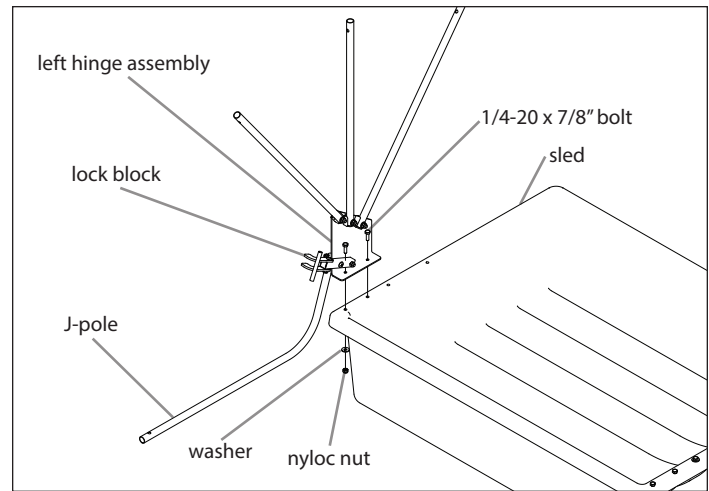

FIGURE 1: Left Side Shown
1. Attach the left hinge assembly (11180) to the sled using (2) 1/4-20 x 7/8" bolts, (2) 1/4-20 nyloc nuts and (2) 1/4" washers. To make assembly easier, the two bolts that hold on the lock block (11178) are loose; you will need to remove the lower bolt and lift the lock block up. Insert the front hinge bolt and return the lock block to the original position. Put the lower bolt back through lock block and hinge plate and then tighten the upper and lower lock block bolts. **SEE FIGURE 1**
2. Repeat step 1 on opposite side using right hinge assembly (11182). **SEE FIGURE 1**